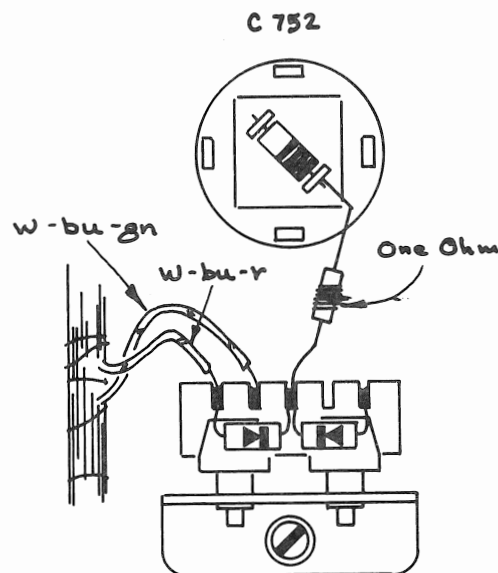

Fig. 2
- () 4. Solder the white-blue-red and white-blue-green wires to the ceramic strip, as indicated in Fig. 2.
- () 5. Solder the 1Ω resistor (on assembly) to the capacitor lug from which the bare wire was removed in step 1 (see Fig. 2).